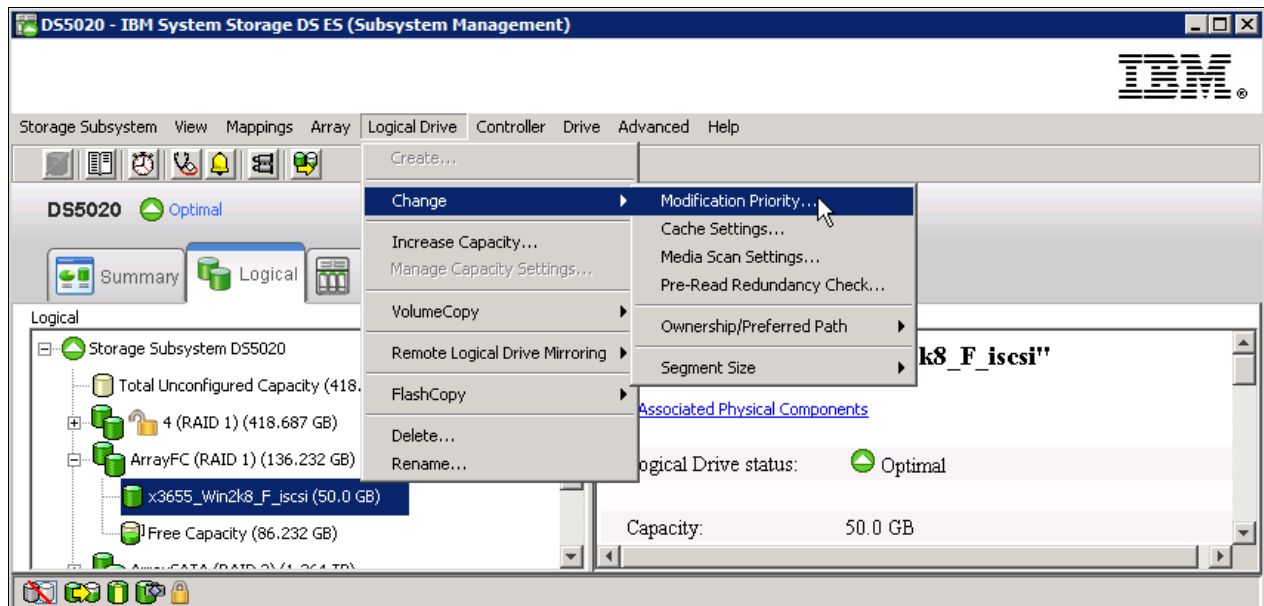

Figure 3-107 Changing the modification priority
1. Select a logical drive, right-click it, and select **Change** → **Modification Priority**, as shown in Figure 3-107.